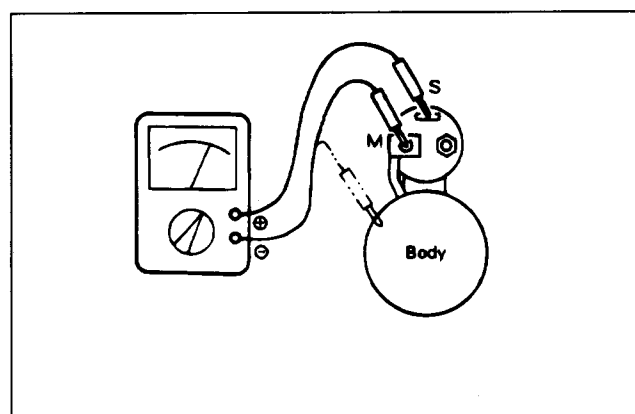

Figure 42
10. Check the magnetic switch for continuity between terminals "S" and "M" and between terminals "S" and body (Fig. 42). If there is continuity (or zero ohm is indicated), replace the magnetic switch.